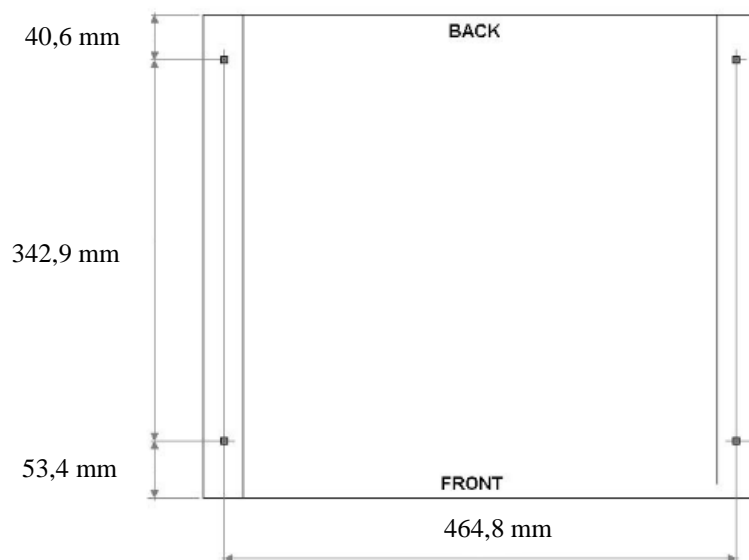

Figure 4- 2 Bolt Pattern for SVS-80 Installation
- Install on a cement pad minimum 7" above surrounding curbing or walkways for water flood control, see Figure 4- 1
IMPORTANT INFORMATION – SAVE THESE INSTRUCTIONS**Figure 4- 1 SVS-80 Installation**